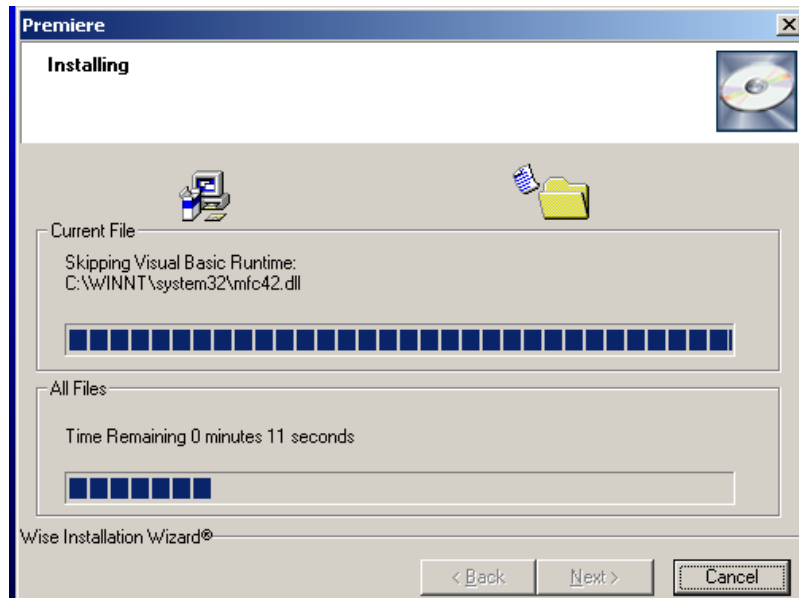

FIGURE 40: Installation Progress Screen
7. The next screen that appears (see Figure 40) monitors and displays the installation progress.